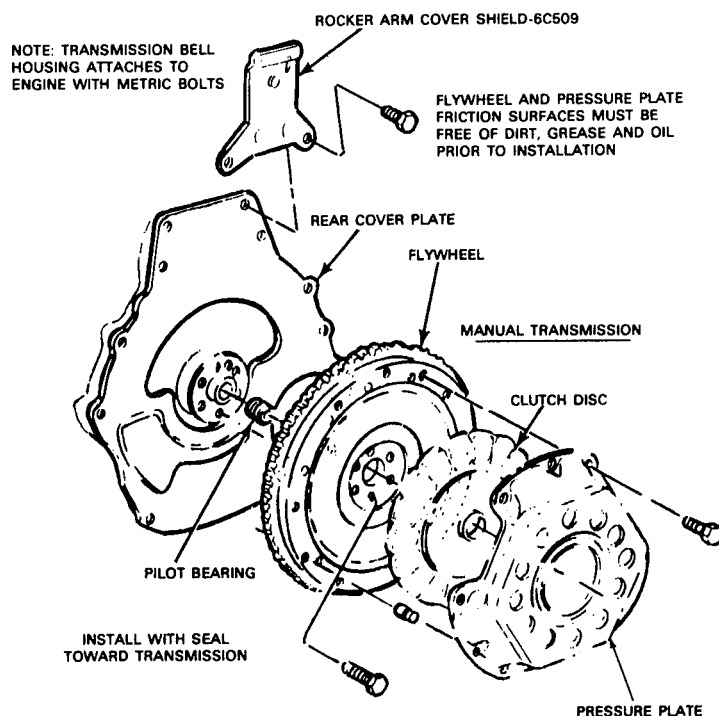

FIG. 50 Flywheel Installation
- Tighten the filter 1/2 turn after the gasket contacts the cylinder block. Fig. 50.